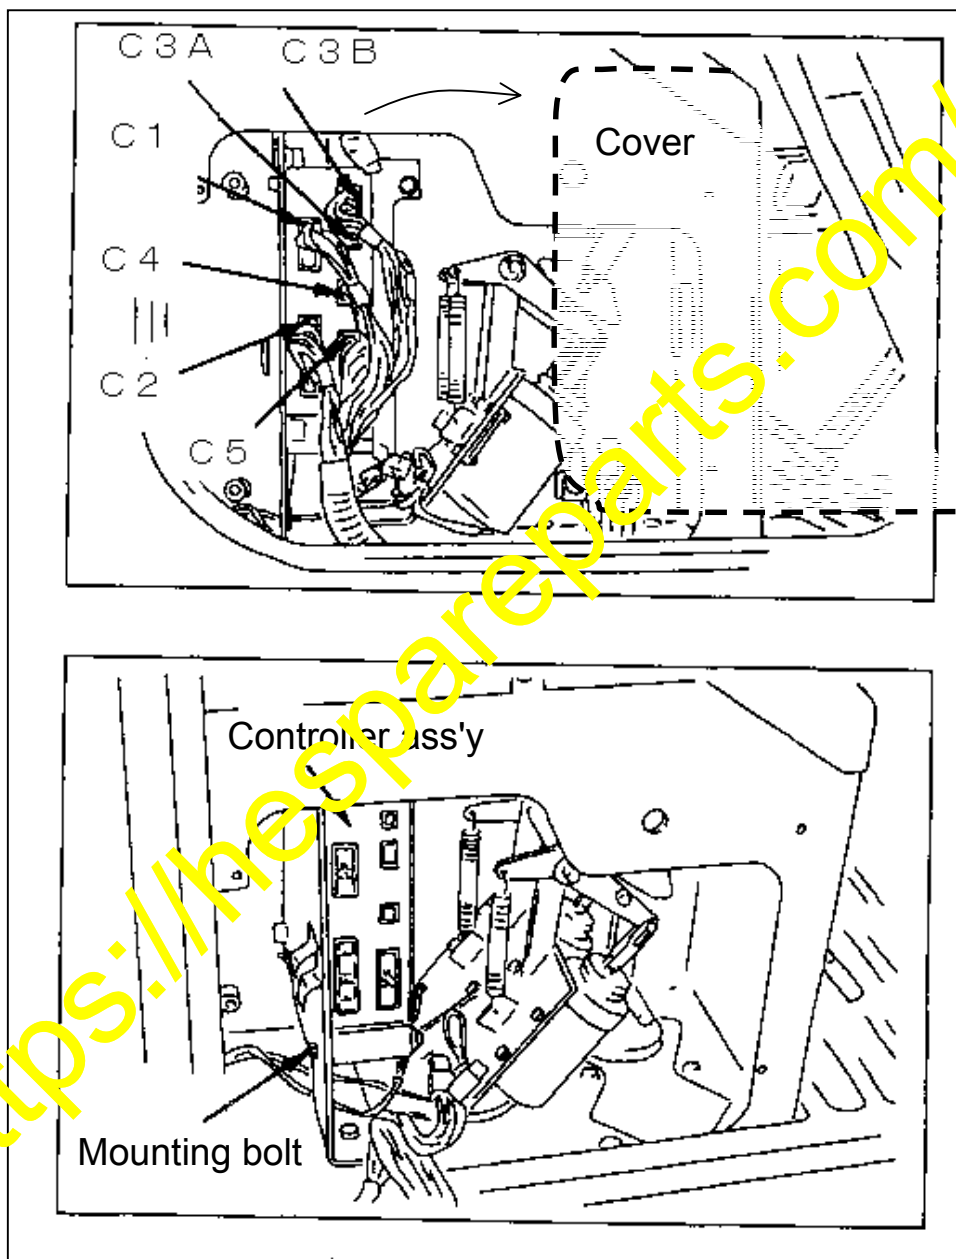

Fig. 4
- 3) Disconnect the harness connectors C1 thru C5 indicated in Fig. 4.